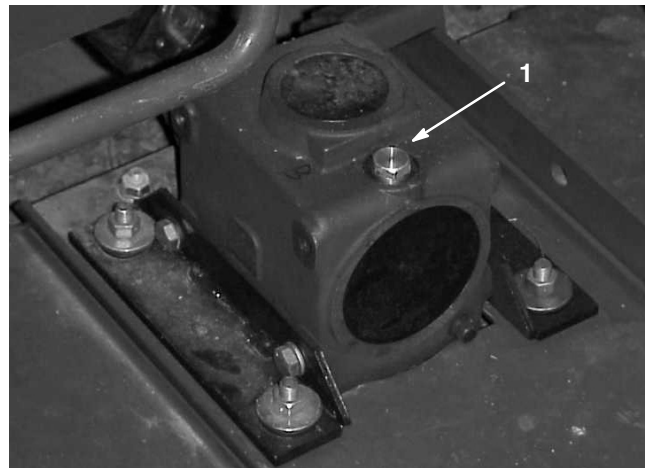

Figure 20
- ### 2. Position the machine and cutting unit on a level surface and lower the cutting unit. Remove the dipstick/fill plug from the top of the gear box (Fig. 20) and make sure that the lubricant is between the marks on the dipstick. If the lubricant level is low, add SAE 80–90 wt. gear lube until the level is between the marks.